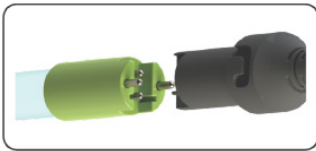

Figure 7a. Standard Output UV Lamp Connection
Step 13: Plug the lamp connector into the lamp. Note the keying for proper alignment (See Figure 7a, 7b). Insert the lamp connector into the gland nut and turn the connector approximately $\frac{1}{4}$ turn to lock the connector to the gland nut as in Figure 9.